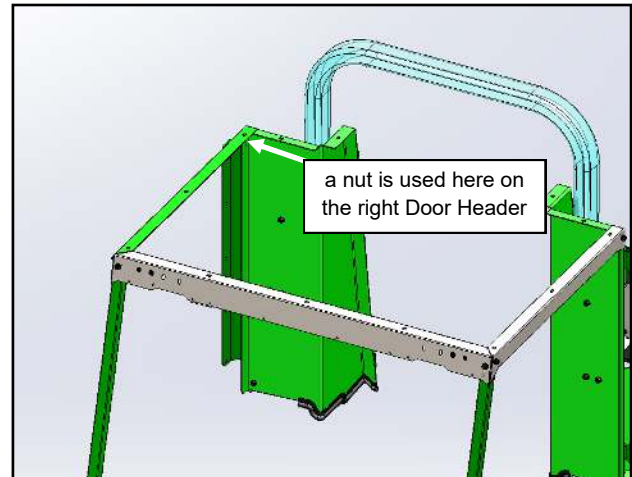

Fig. 8.2 (Install right Door Header)
8.2 Per fig. 8.2, install the right Door Header oriented with the square cut end towards the rear of the vehicle. Leave both bolts loose.